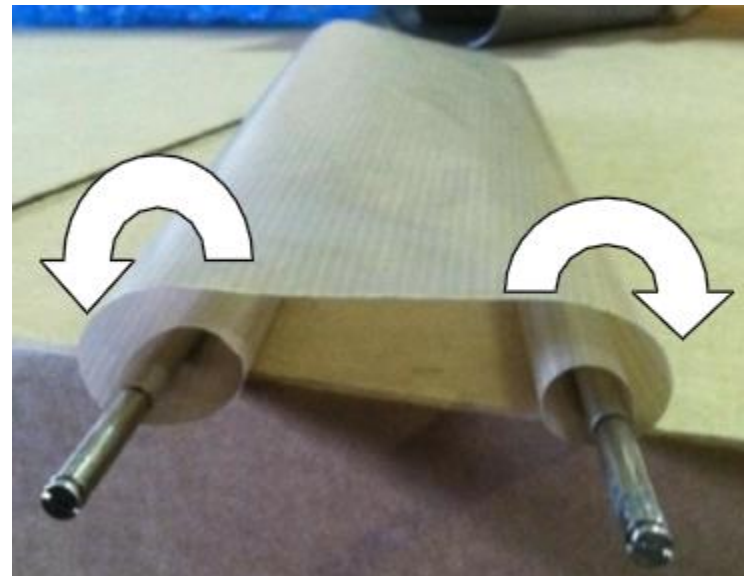

Figure 4-5
5. Repeat for the other end of the sheet. Be sure the sheet wraps around the outside of both ends, See Figure 4-5.